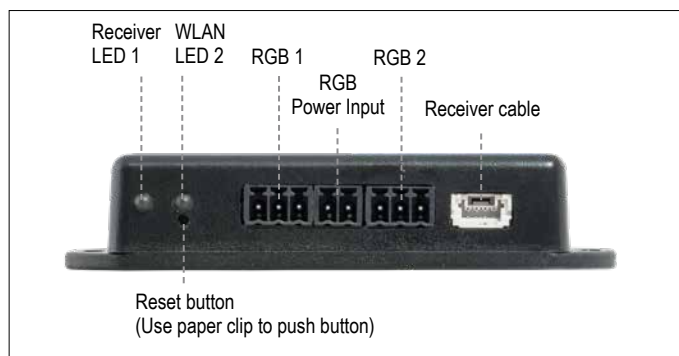

Figure 24: myfire Wi-Fi Box (B6R-W2...)
LED INDICATION ON MYFIRE WI-FI BOX (see figure 24, page 23) 2 RGB LEDs
- Multiple users on the same Wi-Fi channel may interfere with the data transfer. Press reset button on the myfire Wi-Fi Box for 1 second to change current channel (see figure 24, page 23).